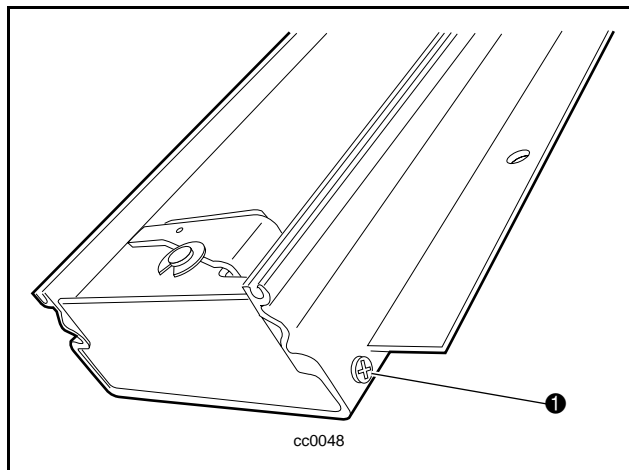

Figure C-29. Releasing the bottom pulley assembly
5. Remove the screws on both sides of the bottom pulley assembly (❶ Figure C-29).